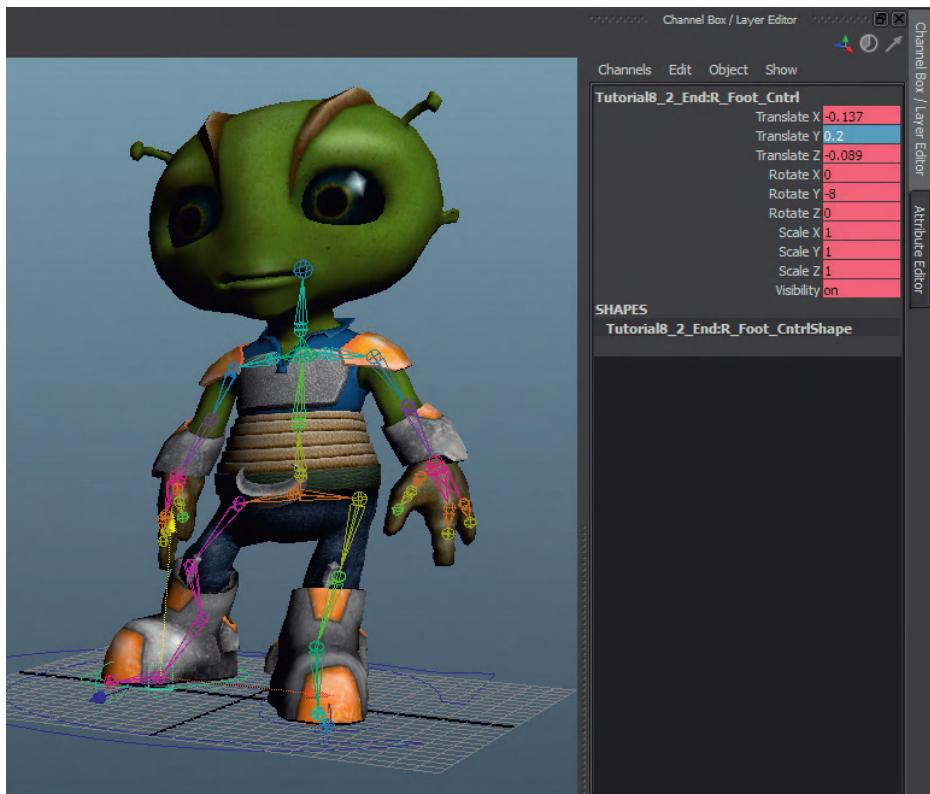

FIG. 9.31 Lifting the feet for passing pose.
Step 13: Set keys for passing poses. Do this at frame 6 by lifting the R_Foot_Cntrl just a little off the ground and setting a key (Fig. 9.31). Then again at frame 18 lift the L_Foot_Cntrl just a bit and set another key.